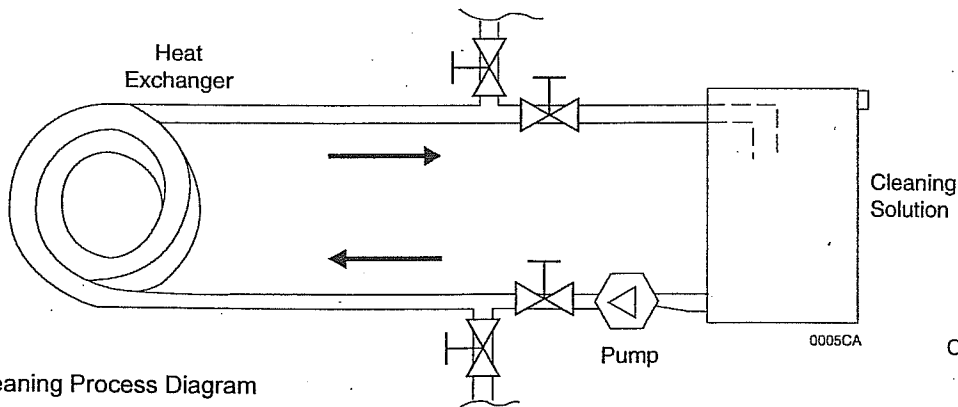

Figure 1: Cleaning Process Diagram
6. Attach pump and hoses as illustrated in Figure 1, making sure all fittings and connections are secure.